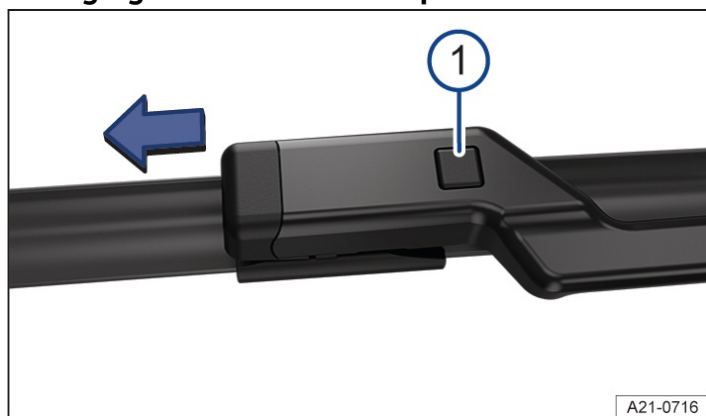

Fig. 1 Changing the windscreen wiper blades.
① Wiper blade release button.
3. Press and hold the release button and simultaneously pull off the wiper blade in the direction of the arrow → Fig. 1 ①.